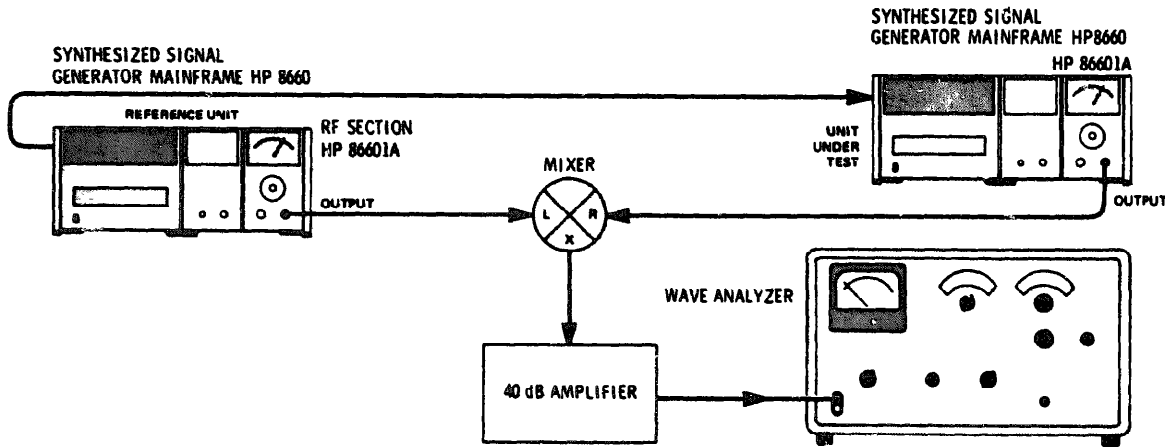

Figure 4-6. Spurious Signal Test Setup
2. Connect the equipment as shown in Figure 4-6.